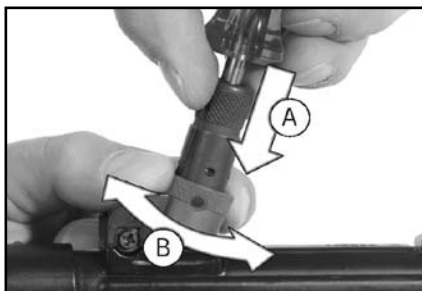

Fig. 14 – Adjust rear sight
2. Insert the Phillips-head screwdriver into the elevation adjustment tool module (A), press downwards and hold it (Fig. 14).
3. Turn rear sight drum counter-clockwise (B) (Fig. 14). Turning by one click changes the point of impact by approximately 1.375 cm (0.55 inches) at 25 meters (27.34 yards or 82 feet) range.
3. Turn rear sight drum (B) clockwise (Fig. 14). Turning by one click changes the point of impact by approximately 7 cm (2.76 inches) at 25 meters (27.34 yards or 82 feet) range.